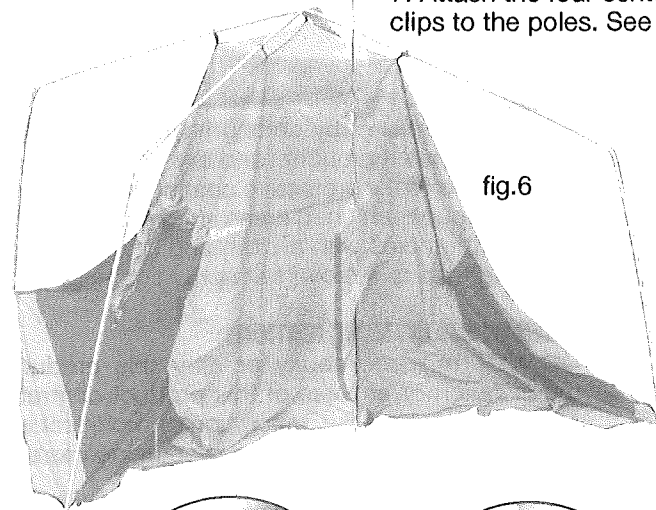

fig.6
7. Attach the four center clips to the poles. See fig.6.